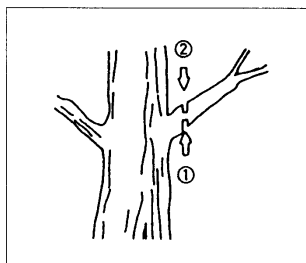

Fig. 2-13
- When pruning a limb 4 inch diameter or larger, cut as follows: (Fig. 2-13)